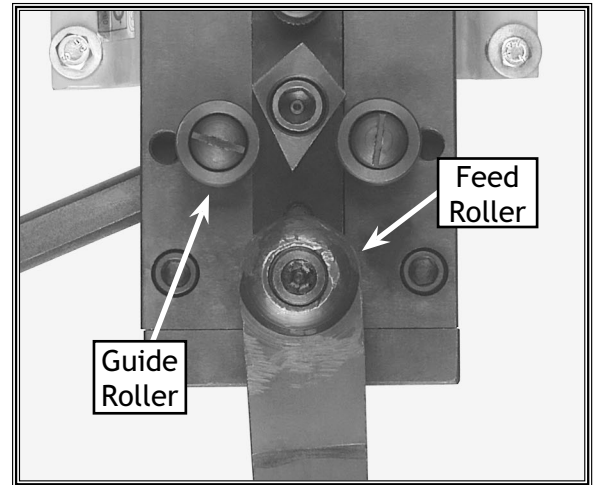

Figure 13. Bend tool open and ready for the workpiece.
1. With the hand lever, move the slide block so the bend tool opens up and can accept the metal between the feed roller and the guide rollers (**Figure 13**).